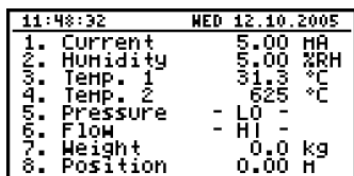

Fig. 6.4. “Channels list” mode (values)
- “**Channels list**” mode (Fig. 6.4, 6.5) enables the measurement results for all active measurement channels to be viewed in numeric or graphic (bar) form.